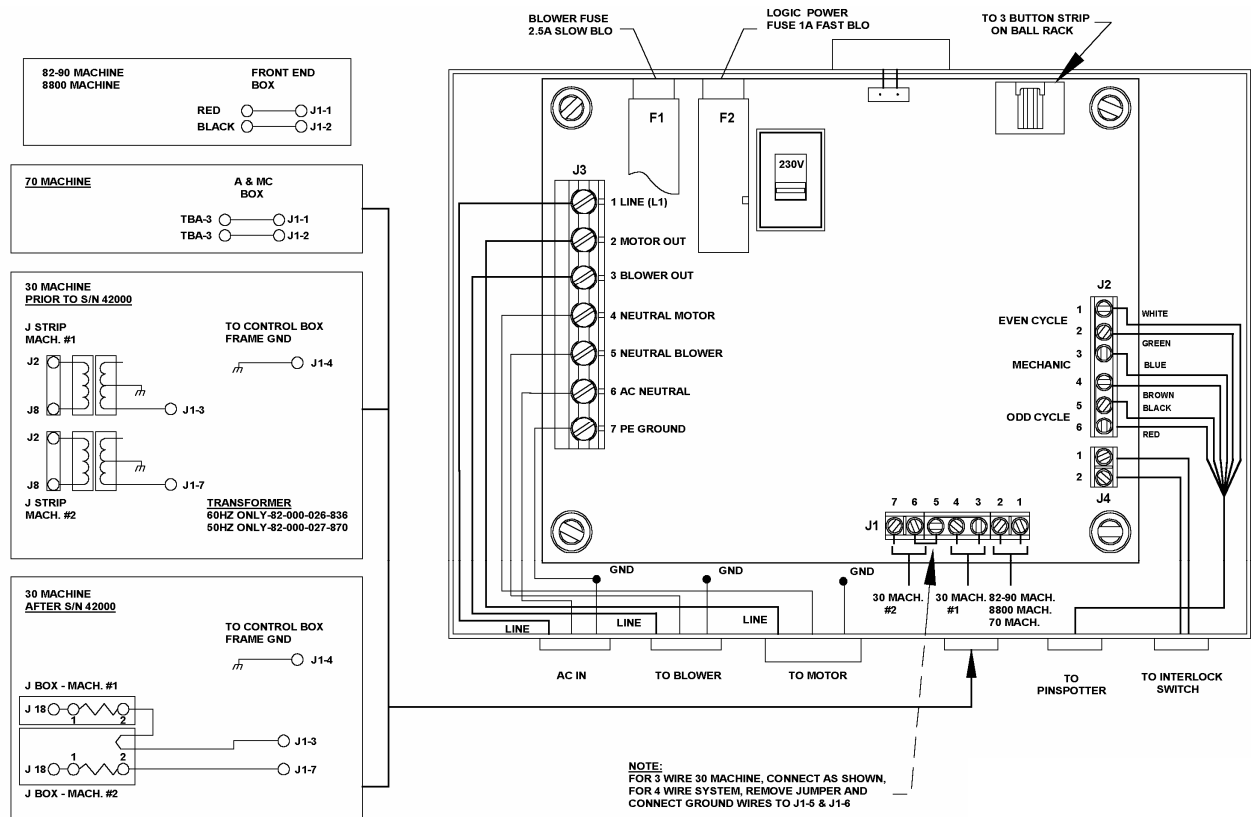

Figure 14, Electrical Connections
5. Attach the power supply cable's flexible conduit to the control box at the "AC IN" location shown in Figure 14.
- Connect the blue wire (neutral) to terminal #6 on junction block **J3** and the brown wire (line) to terminal #1 on **J3** (see Figure 14).
- Strip approximately 3/8-inch of insulation from the ends of the brown and blue blower wires (the blower wires exit the end of a ball rack's rail assembly). Route this cable into the control box (see Figure 14). Tighten the cable clamp to secure the cable to the box.
12. Depending on the specific pinspotters in your bowling center, connect the pinspotter's control wires to junction block **J1** as shown in Figure 14.